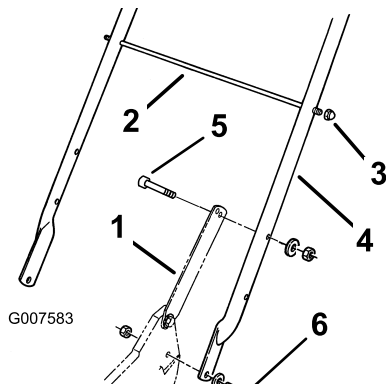

Figure 3
1. Mount the handle to the outside of the machine housing (using the bottom hole) with 2 bolts (5/16 x 1-1/4 inches), washers, and thin locknuts (5/16 inch) (Figure 3).
2. Secure the handle latches to the handle with 2 bolts (5/16 x 1-1/2 inches), washers, and locknuts (5/16 inch) (Figure 3).
3. Slide the bag-support rod through the second from the top mounting holes in the handle and secure each end with a cap locknut (Figure 3).